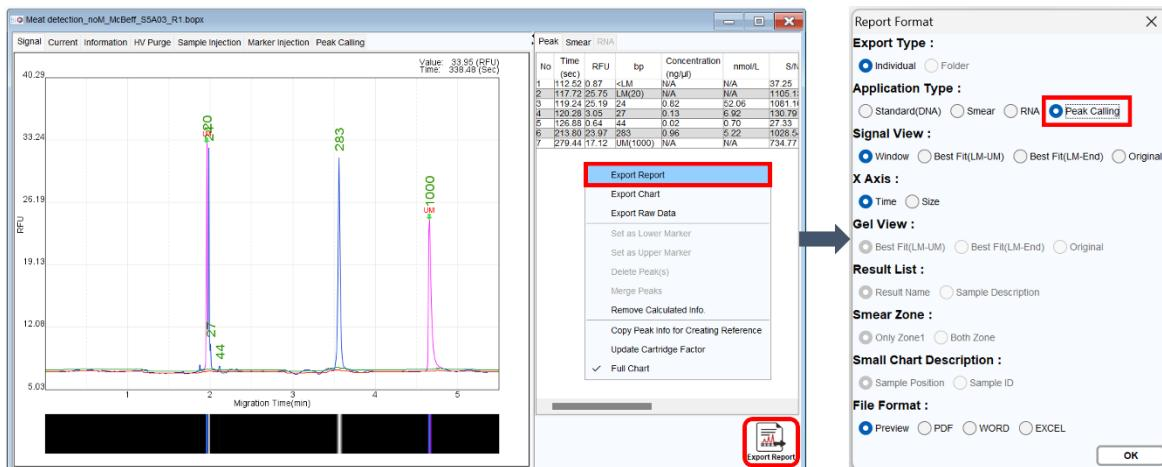

Figure 53 Loading Panel and Exporting the Report
6. Click the **Signal** tab to return. The software will automatically scan the peak signals. Click the **Show Size/Legend** button in the Toolbar to display the legend of the target peak. Right-click and select **Export Report** or click on the Export Report icon at the bottom to export the report. (Figure 53)